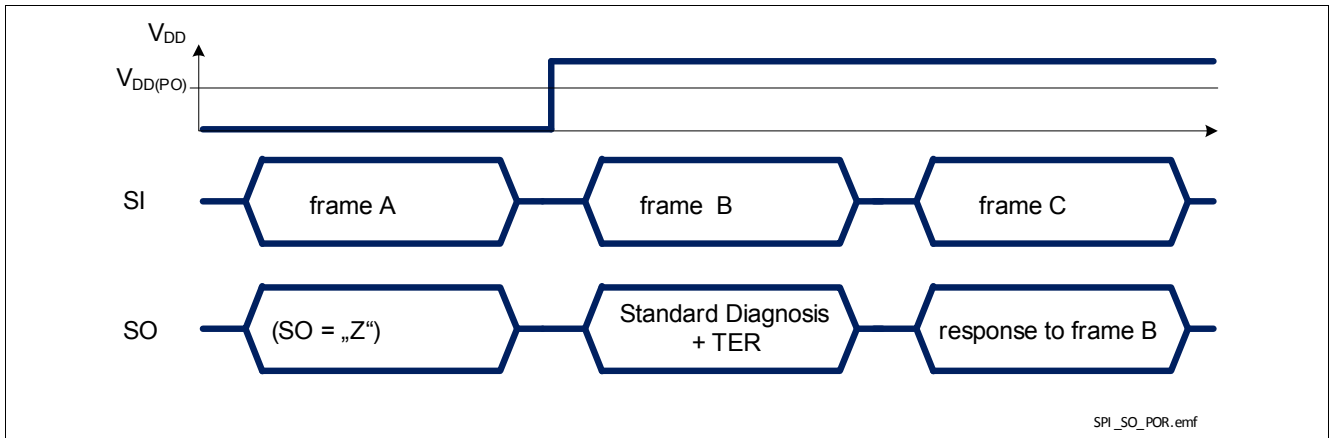

Figure 33 BTS54220-LBA response after coming out of Power-On reset at V_{DD}
- when BTS54220-LBA logic supply comes out of Power-On reset condition, as shown in Figure 33